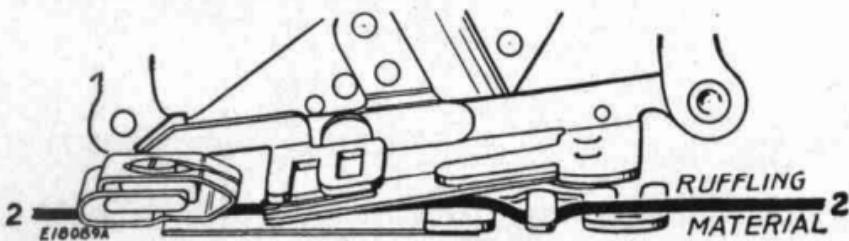

FIG. 72. CORRECT POSITION FOR THE MATERIAL
- (2) When the desired space is made, set the projection **D** in either of the slots "6" or "12".
- (3) Insert the material to be plaited between the two blue blades **Line 2**, Fig. 72.